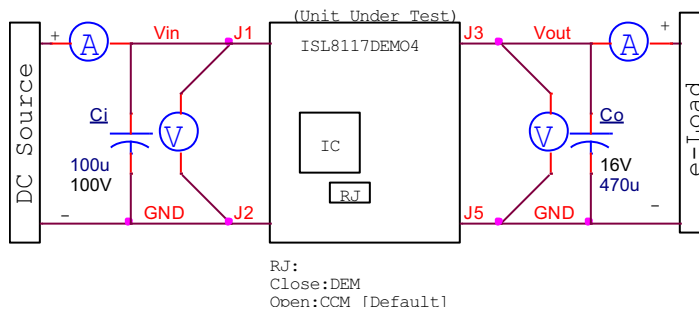

Figure 3. Proper Test Setup
As shown in Figure 3 on page 7, 6V to 60V  $V_{IN}$  is supplied to J1 (+) and J2 (-). The regulated 5V output on J3 (+) and J5 (-) can supply up to 6A to the load.
- (1) Ensure that the circuit is correctly connected to the supply and electronic loads before to applying any power. Refer to Figure 3 on page 7 for proper setup.
- (2) Turn on the power supply.
- (3) Adjust the input voltage  $V_{IN}$  within the specified range and observe the output voltage. The output voltage variation should be within 3%.
- (4) Adjust the load current within the specified range and observe the output voltage. The output voltage variation should be within 3%.